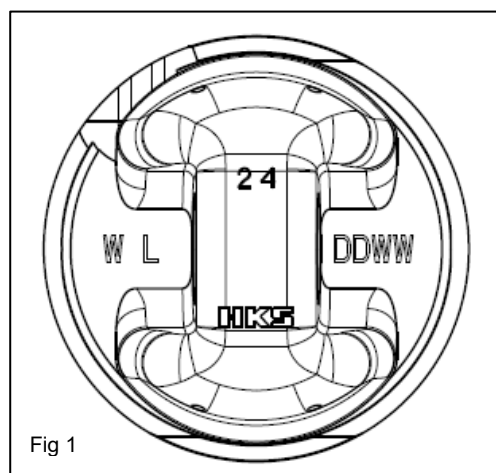

Fig 1
2.1 Confirm the O.D. of the piston skirt on the back of the piston. The diameter is between 86.950 to 86.960mm. The last 2 numbers of the 3 digits after the decimal point are shown on the back of the piston. (e.g.: If the O.D. is 86.955mm, “55” is shown on the back of the piston.) (Fig 1)